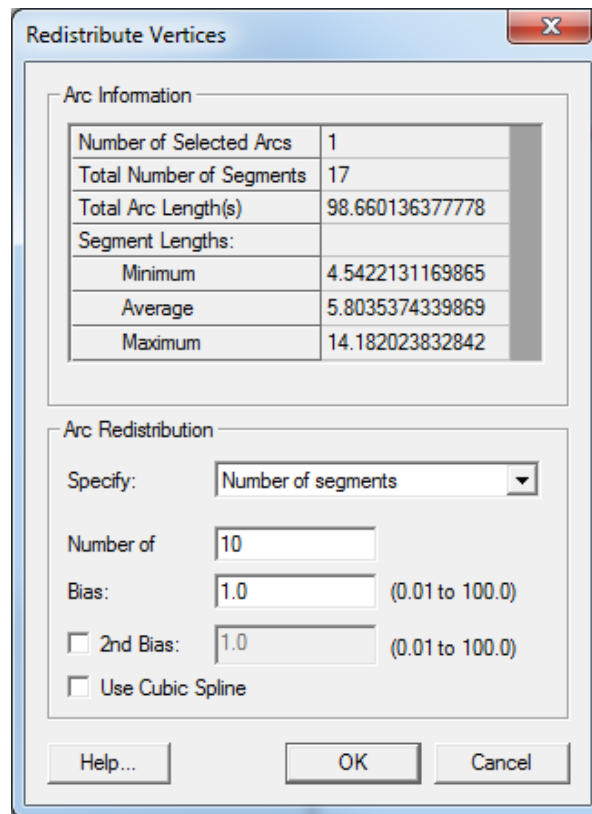

Figure 5 Arc Redistribution dialog
4. Set *Number of* to “10”. Leave everything else at the default settings (Figure 5).